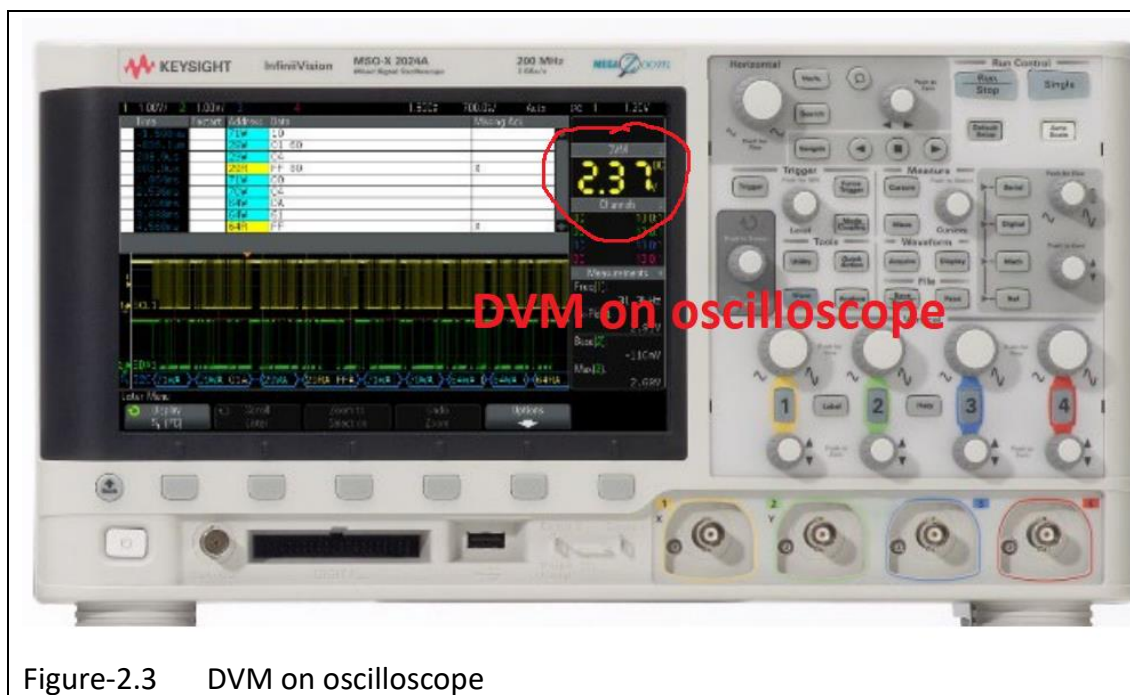

Figure-2.3 DVM on oscilloscope
6. Measure the output voltage of the power supply with five measurement methods; (1) Handheld DMM, (2) Desktop DMM, (3) image on oscilloscope, (4) Measurement function of oscilloscope and (5) DVM function on oscilloscope (Figure-2.3), skip (5) if your oscilloscope does not have this function (unpaid 😞). Compare the results in terms of precision and explain your conclusion (know pros and cons of each method).